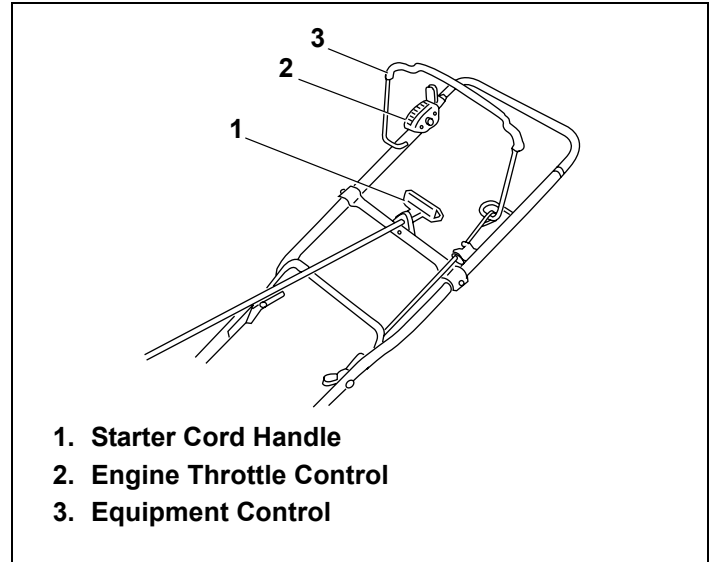

Figure 19. Typical Engine Controls
2. Move engine throttle control to "FAST" position, if present (see equipment manufacturer's instructions). See Figures 19 thru 21.
- Operate equipment control to release engine brake or clutch, if present (see equipment manufacturer's instructions). See Figure 19 on page 10. Afterward, continue reading instructions below.
- Grasp starter cord handle. See Figure 19 on page 10. Afterward, continue reading instructions below.
- Move engine throttle control to "CHOKE" or "START" position, if present (see equipment manufacturer's instructions). See Figures 19 thru 21 on page 10. Afterward, continue reading instructions below.
If restarting a warm engine after a short shutdown, move engine throttle control to "FAST" position instead of "CHOKE" or "START" position. See Figures 19 thru 21 on page 10. Afterward, continue reading instructions below.
- Operate equipment control to release engine brake or clutch, if present (see equipment manufacturer's instructions). See Figure 19 on page 10. Afterward, continue reading instructions.
- Momentarily move engine throttle control back to "CHOKE" position. See Figures 19 thru 21 on page 10. Afterward, continue reading instructions below.*